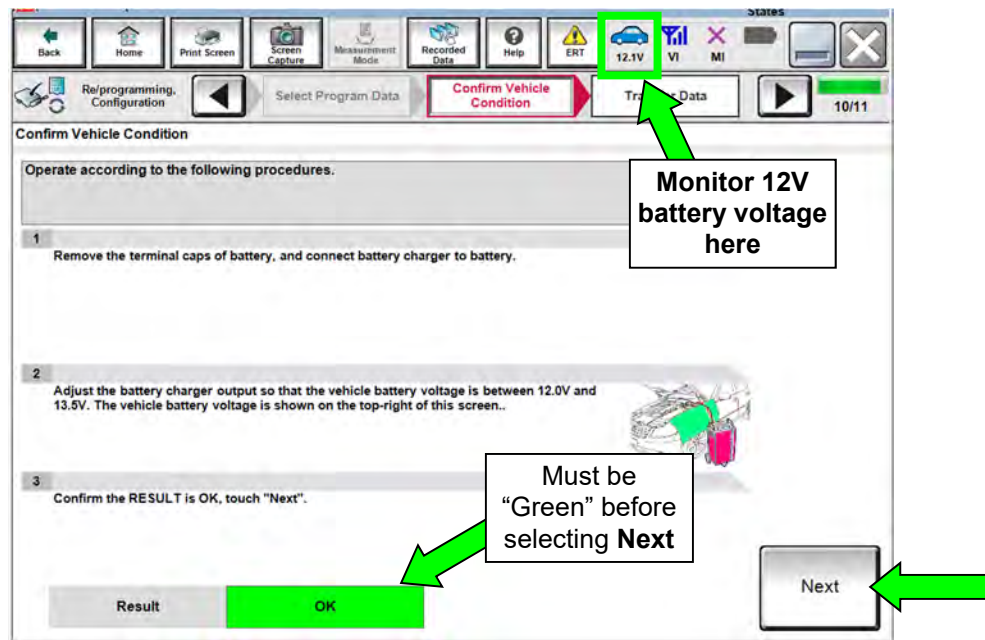

Figure 13
- If no **Saved Data List** is stored, Figure 13 on the next page will be displayed. Proceed to step 24.